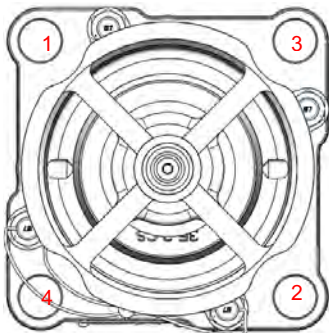

Figure 2-2 Tighten in Alternating Sequence
- 2.2.10 Install the nuts and tighten them in 1/3-torque increments in a diagonally alternating sequence, as shown in Figure 2-2 below. Consult gasket manufacturer for recommended torque requirements.